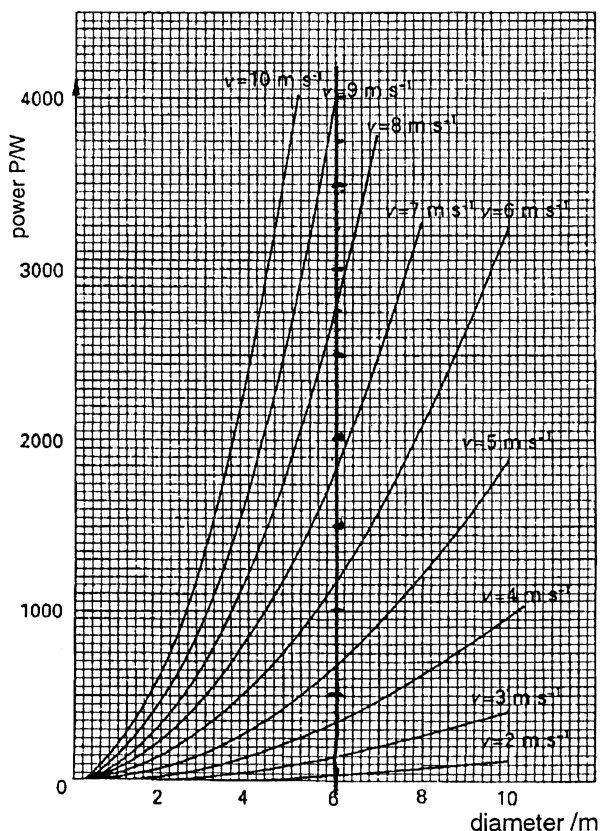

Fig. 3
Fig. 3 shows how P , the output power of these windmills, varies with the overall diameter of the wheel for different wind speeds, v .
- (a) Use the data supplied in Fig. 3 to tabulate corresponding values of power output and wind speed for a particular multi-bladed low-speed windmill with a wheel of diameter 6.0 m.
- (d) In (c)(ii), you have calculated the power (kinetic energy per second) arriving at the wheel. Use this together with data from Fig. 3 to find the fraction of this power converted into useful output power. [1]